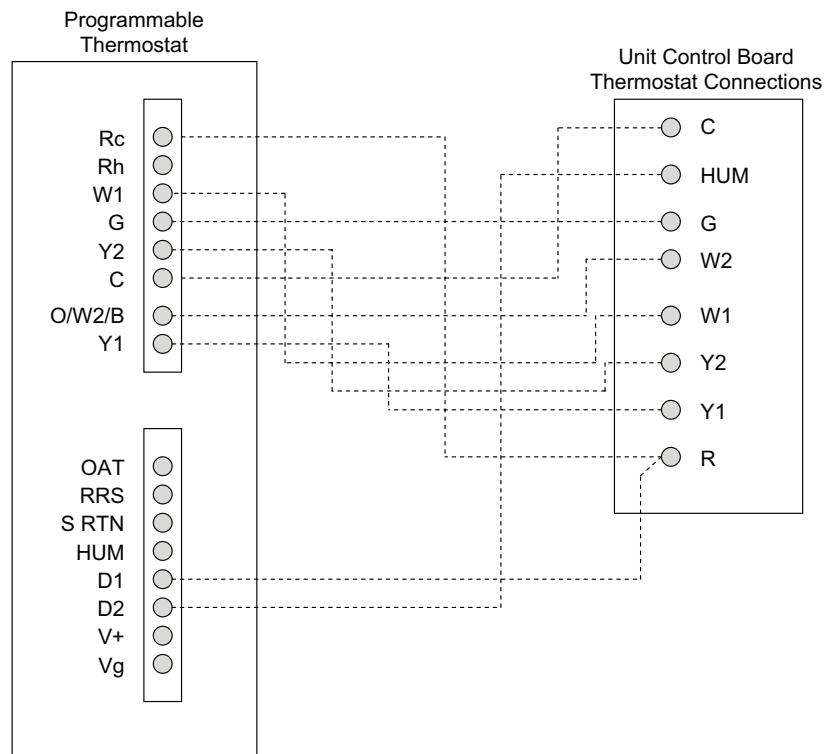

Fig. 40 – 50FE-*16 Unit with Humidi-MiZer Adaptive Dehumidification System with Edge® Pro Thermidistat Device
5. The Thermidistat has dry contacts at terminals D1 and D2 for dehumidification operation (see Fig. 40). Connect D1 to the R terminal on the UCB. Connect D2 to the HUM terminal on the UCB. Refer to the installation instructions included with the Carrier Edge® Pro Thermidistat device for more information.